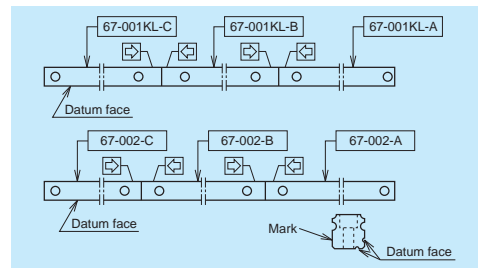

Fig. 9.25
(5) Butting Rail Specification
- The rails with butting specification are marked with alphabet (A, B, C ...) and an arrow on the opposite side of the mounting datum face. Use the alphabets and arrows for assembly order and direction of the rail (Fig. 9.25).